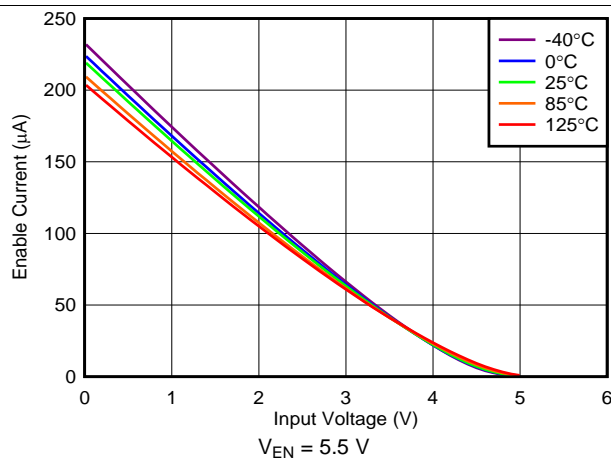

图 23.  $I_{EN}$  vs  $V_{IN}$
The EN pin is independent of the input pin (IN), but if the EN pin is driven to a higher voltage than  $V_{IN}$ , the current into the EN pin increases. This effect is illustrated in 图 23. When the EN voltage is higher than the input voltage there is an increased current flow into the EN pin. If this increased flow causes problems in the application, sequence the EN pin after  $V_{IN}$  is high, or to tie EN to  $V_{IN}$  to prevent this flow increase from happening. If EN is driven to a higher voltage than  $V_{IN}$ , limit the frequency on EN to below 10 kHz.